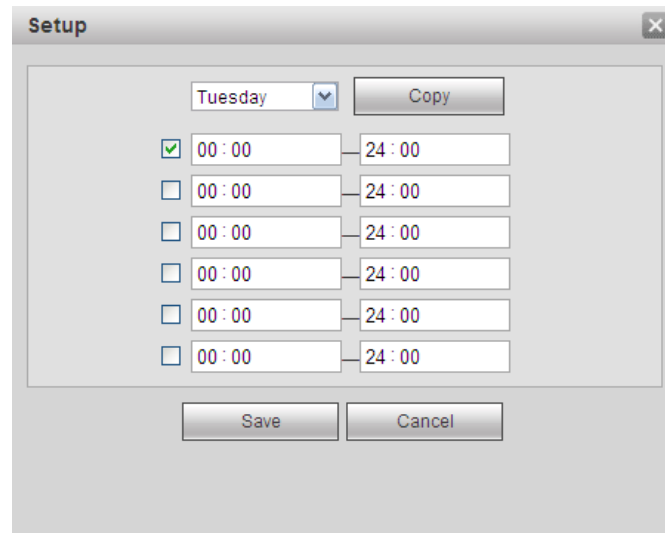

Figure 4-44
2. In the resulting setup dialog (see Figure 4-44), select a day of the week from the drop-down menu.